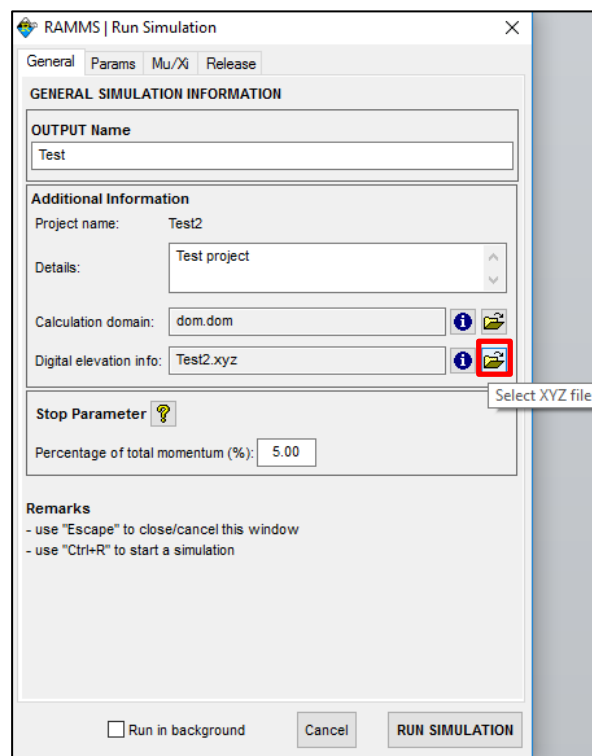

Figure 4.20: Select new xyz-file with dam information.
- The new xyz-file, containing the deposition information, is created. To run a simulation based on this new xyz-file, just choose the xyz-file in the Run Simulation window, see Figure 4.20.